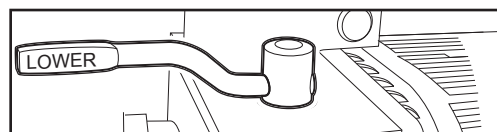

Figure 8
10. Locate the 2.75" Cab Tilt Level, remove and discard (see *Figure 8*).